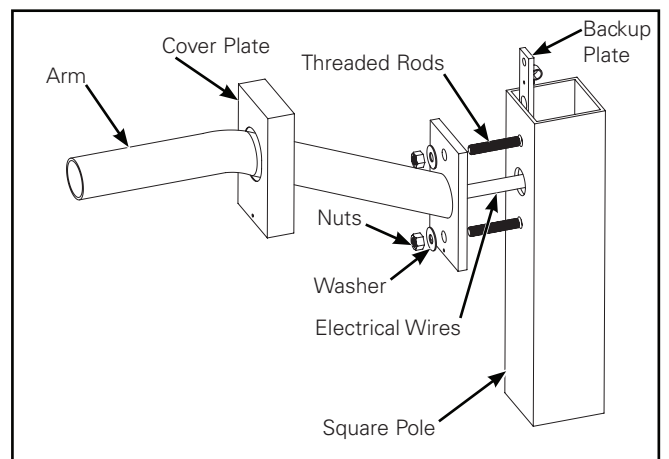
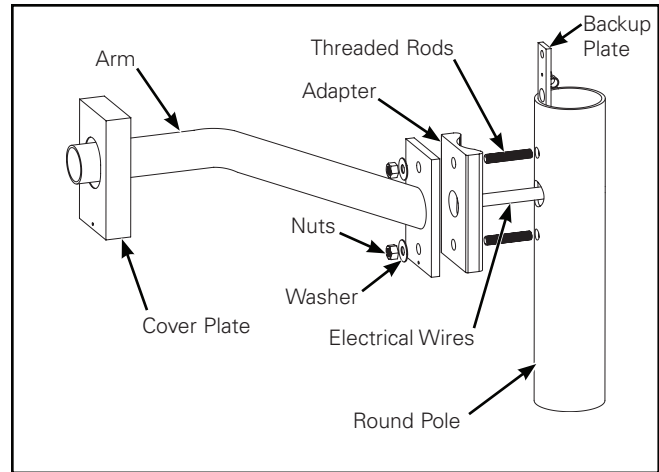

Figure 6.
Figure 7.
Mast Arm: Square Pole (Figure 6.) and Round Pole (Figure 7.)
3. For round poles only - Install round plate adapter with round side facing pole (Figure 7.). Align holes top and bottom.